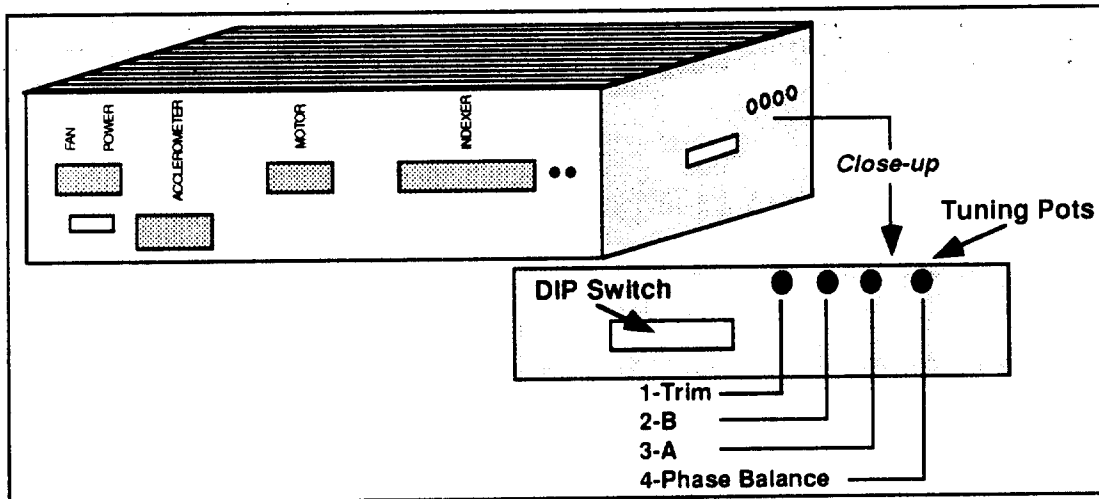

Figure 4-6. Location of Tuning Potentiometers (Pots)
To detect vibration, an accelerometer can be mounted to the forcer and the output monitored with an oscilloscope, or you can lightly place your hand on the forcer as it moves back and forth. The pot adjustments on the bottom of the L Drive are listed below. Pot #1 is closest to the DIP switches (see Figure 4-6).
- STEP 3** Repeat the steps above until no further improvement is noted. The pot adjustments on the bottom of the L Drive (see Figure 4-6) are listed below.